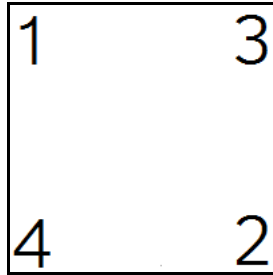

FIGURE 6-1 TIGHTEN SCREWS IN THE FOLLOWING ORDER AND PATTERN
- 5 Replace the cover. Loosely tighten each screw in the X pattern as shown in Figure 6-1. Then securely tighten each screw in the X pattern.